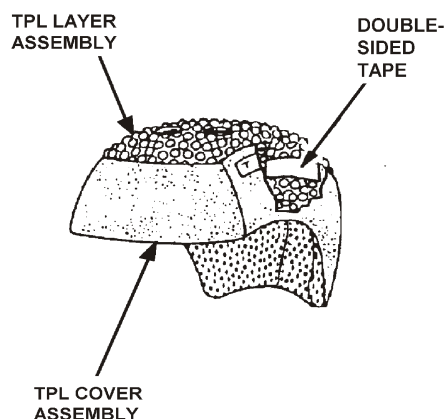

Figure 3-1. TPL Assembly
5. Referring to Figure 3-1, install new double-sided tape on layer assembly.